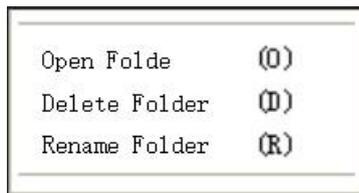

Figure 4-22A
- 1) Right-click the menu item of the directory (Figure 4-22A).